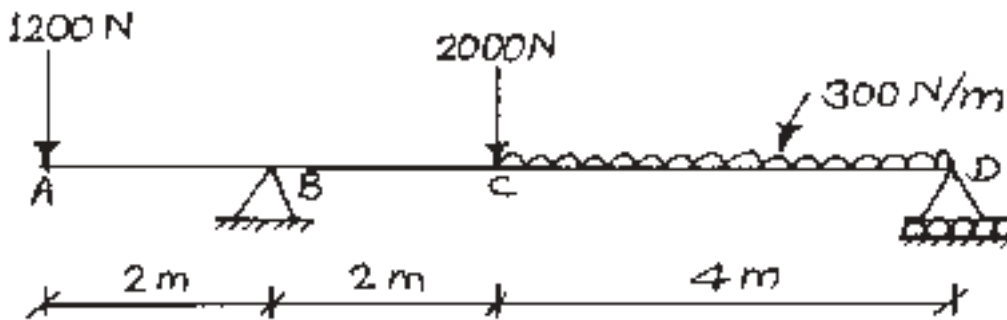

Fig. No. 6
- a) Calculate the reactions using analytical method for a beam shown in Fig. No. 6.